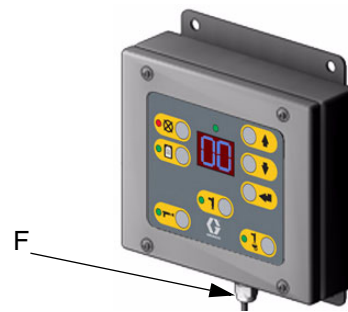

FIG. 17
The Operator Station cable (F) is factory wired into the Operator Station. FIG. 17. Do not disconnect the cable except to replace it. Route the 50 ft. (15.2 m) cable to the Smart Fluid Panel and connect it to the Operator